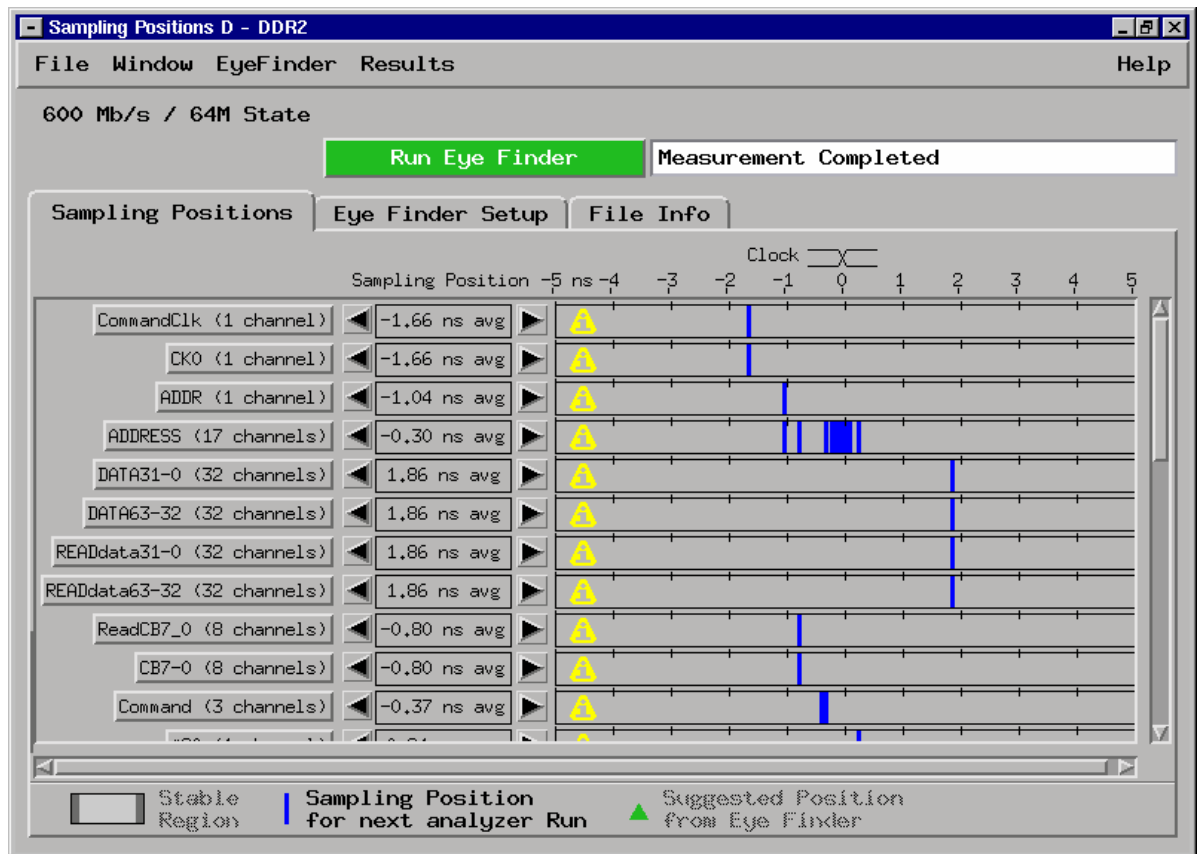

Figure 9 – DATALOW set to +1.86ns
Set the sample position to be equal to the average time you computed in step 6. The easiest way to do this is to point to the blue vertical sample position bar with the mouse and press and hold the left mouse button while dragging the blue bars as far to the left side of the display as possible. This will cause all the blue bars for that label to be set to the same value. Then you can drag the blue sample position bar back to the right to place it in the position you measured in step 6. The sample position is indicated on the scale at the top of the display as well as on the side under the “Sampling Position” column. Figure 9 shows the DATA31\_0 (DATALow) label sample position set to +1.86ns as an example. This means that if you measured a
1.86ns average delay to the center of the data eye for the READdataLow bus after a valid Command Clock edge, you would set the analyzer sample position for READdataLow to +1.86ns (as shown in Figure 9).